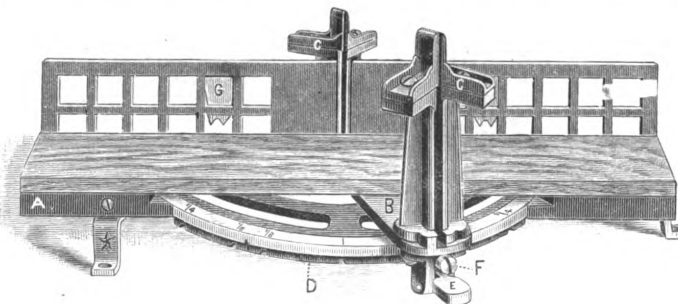

Fig. 6.—Olmsted's Improved Miter-Box No. 6.
L. H. Olmsted, Corona, N. J., has recently added to his assortment of miter-boxes the one which is represented in Fig. 6 of the accompanying cuts, which, it will be observed, possesses new features. It is constructed entirely of iron and steel, and a board is secured to the bottom of the inside to place the work upon. To the frame A is attached a swinging-bar, B, which swings on a pivot at the back of the frame. This swinging-bar is constructed with four uprights; to the top of these uprights is attached four irons, C C, which serve as guides for the saw. The two right-hand irons are fastened permanently; the two other irons are slotted where the screws pass through them and can be moved up to and from the fixed irons, thereby adjusting the space between the irons to fit any thickness of saw-blade. These saw-guides are made sufficiently high and broad to make a good bearing upon the saw-blade, and the space between them being open only sufficient to allow the saw to move freely, it is assured that perfect work can be done with this box, for the saw will be held in a perfectly upright position and an ordinary cross-cut saw can be used as well as a back saw, for the blade cannot spring in this box. The saw-guides are for the purpose of preventing the saw from coming in contact with the slots in the swinging-bar. Underneath the frame and in front are seven segments of a circle, marked D in the illustration. Each one of these segments is notched and made fast to the frame by screws. The holes through which these screws pass are elongated to allow the segments to be moved laterally. Attached to the swinging-bar B is a lever, E, which moves freely in two slots, one end being secured by a pivot, and is actuated by a steel spring; this lever is fitted to the notches in the segments, and by moving the swinging-bar the lever will be sprung into either of the notches desired and thereby hold it